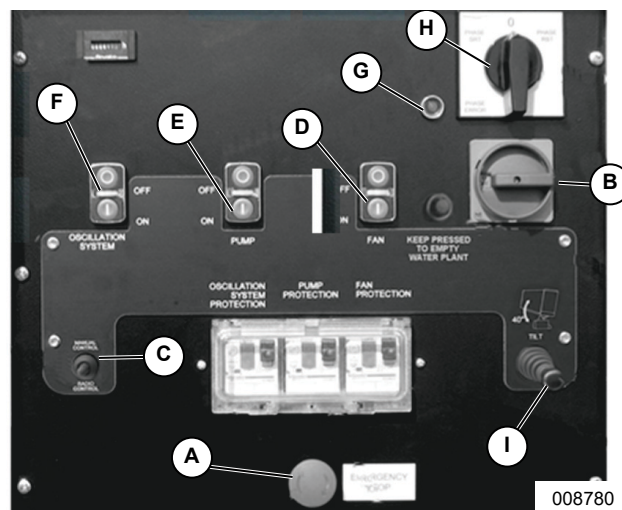

Figure 3-5. Control Panel
- See Figure 3-5. Verify emergency switch (A) is in the out, armed position. If emergency switch is not armed, twist counterclockwise to reset.
- Turn input switch (B) ON.
- Set manual control switch (C) to MANUAL.
- Press fan (D) ON.
- Press water pump (E) ON.
- If using automatic oscillation system, press oscillation system (F) ON.
NOTE: See Figure 3-5. Stop the unit at any time by pressing emergency stop (A).
See Figure 3-5. Use control panel tilting lever (I) or remote control tilt buttons to adjust tilt 0 to 40°.
- See Figure 3-5. Verify oscillation is switched OFF (F).